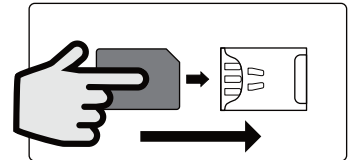
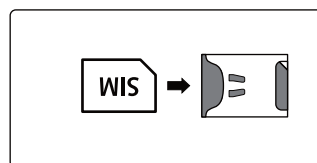

Fig. 34
Fig. 35
2. Carefully, using your index finger, guide the nano SIM right, see **Fig.34**, into the SIM holder, see **Fig.35**.